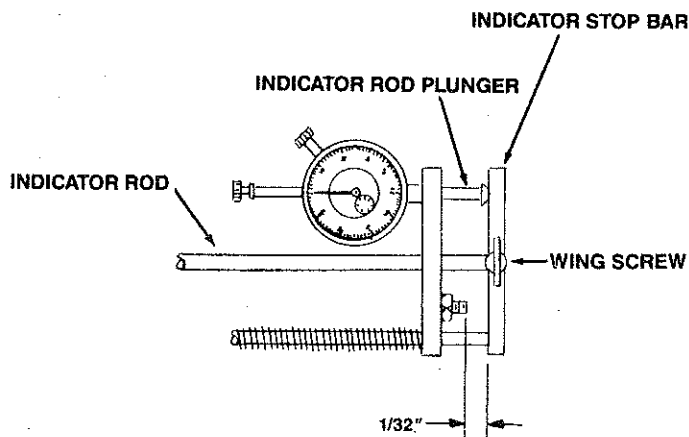

FIG. 80
- Loosen the wing nut on the indicator stop bar, holding the indicator rod firmly against one blade. Pull the indicator stop bar back until there is a 1/32" gap between it and the set screw. This is to permit rotation of the reel blades to ride on the domed anvil only. (See FIG. 80) At each location (left, right and center) turn the reel by hand and observe the indicator variations. All readings should be within .002".
Index reel blade until you read the high point on the indicator. Now loosen the wing screw and set the indicator stop block to a 1/32" gap as shown in FIG. 80 & 81, page 31.